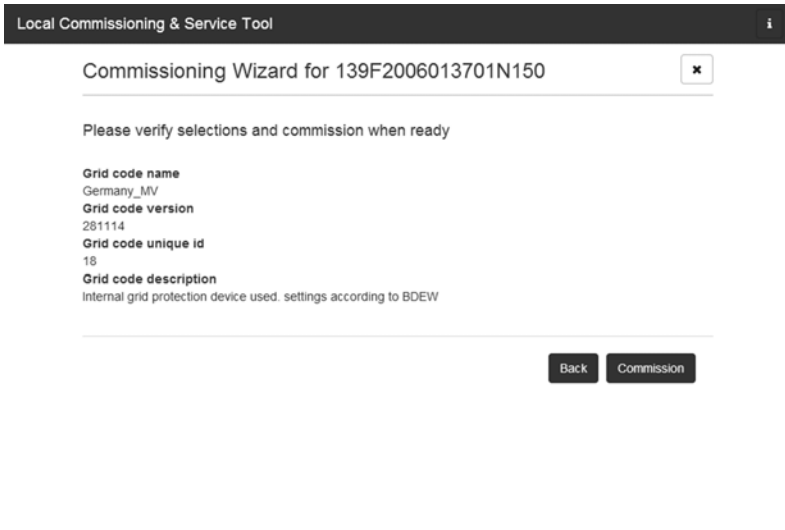

Figure 5.7 LCS tool - checking the country and grid code
9. The LCS tool prompts for a confirmation of the selected country and grid code. See figure 5.7. A wrong configuration can be changed by clicking the **[Back]** button and by changing the settings in the previous window.